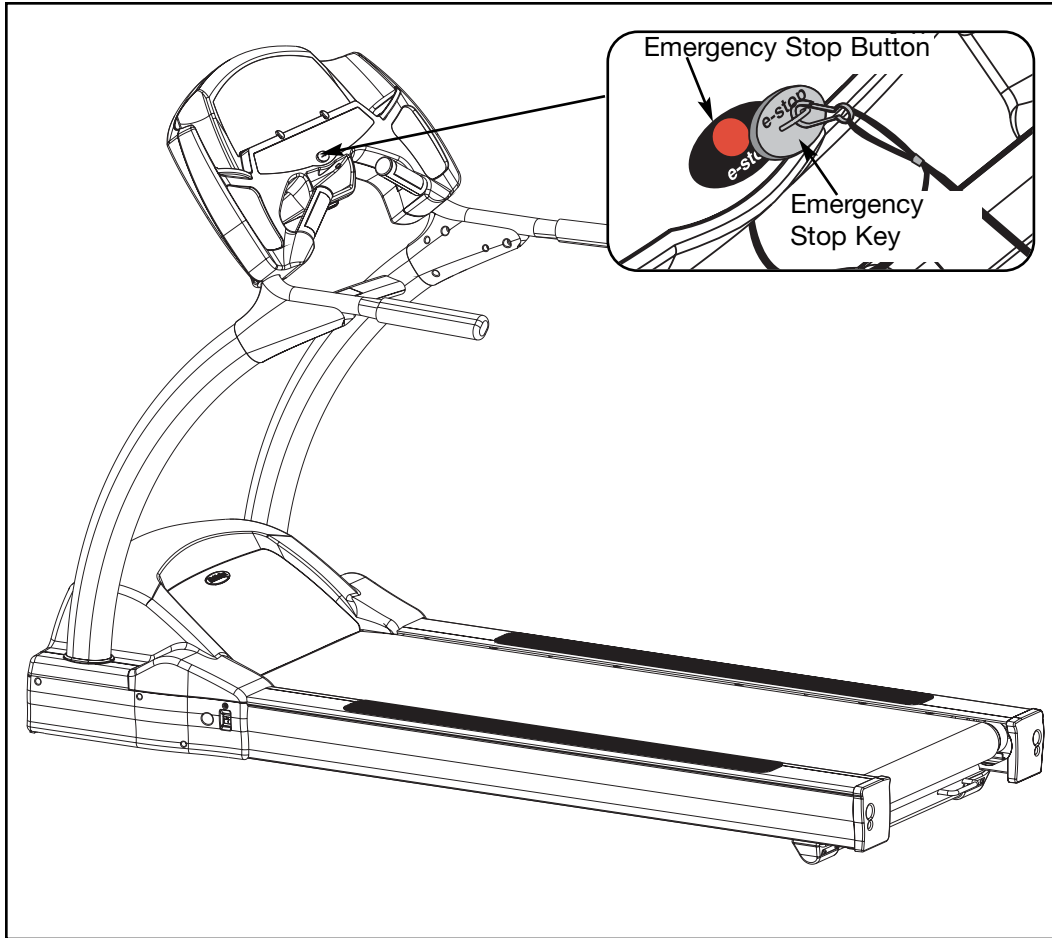

Figure 13
- A.** Confirm that the emergency stop key is in place over the e-stop button. See Figure 13.